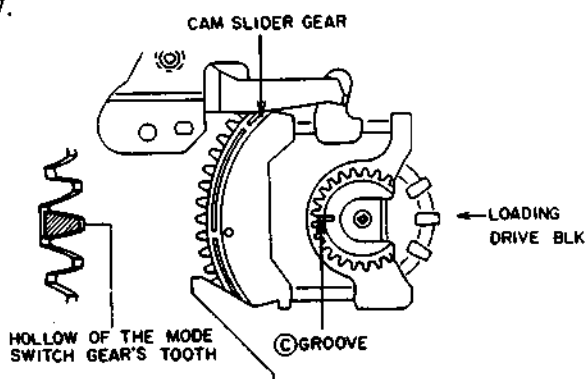

Fig. 4-17
- 2) Attach the **MODE SELECT SWITCH** to the **LOADING DRIVE BLK**. At this time, align the hollow of the gear's tooth (reverse side of the © mark) with the © groove of the **CAM SLIDER GEAR** as shown in Fig.4-17.